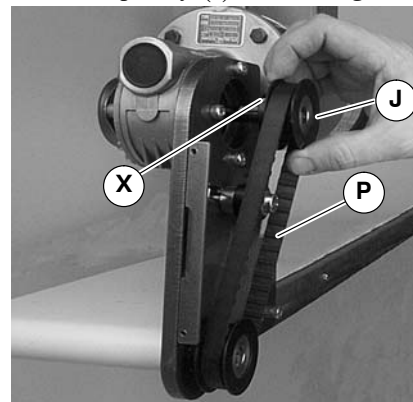

Figure 20
**NOTE:** If drive pulley (J of Figure 20) is replaced, wrap timing belt around drive pulley and complete step 3.
3. Loosen drive pulley set screws (X of Figure 20). Remove drive pulley (J) and timing belt (P).
**NOTE:** Drive pulley (J of Figure 20) is removed. Wrap timing belt around drive pulley and complete step 13.